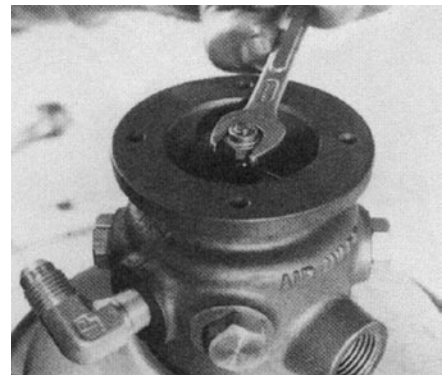

Figure 7-12 Installing self-locking nut on connecting rod.
- 7.18 Install self-locking nut (44) on upper threaded end of connecting rod (37). See Figure 7-12. Referring to Figure 7-13 and paragraph 7.5, if no lower threads of connecting rod show above shifting nut (40), then install self-locking nut (44) with at least one upper thread of connecting rod exposed beyond the self-locking nut. Correspondingly, if one or two lower threads of connecting rod are exposed beyond the shifting nut, then install self-locking nut with a like number of connecting rod upper threads exposed beyond the lock nut.